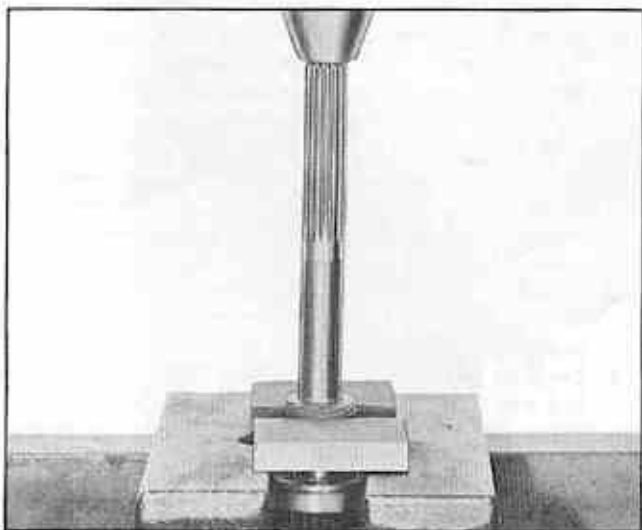

Fig. 33 Pressing Speedometer Drive Gear Off Main Shaft
1. Press off speedometer drive gear as shown in Fig. 33.